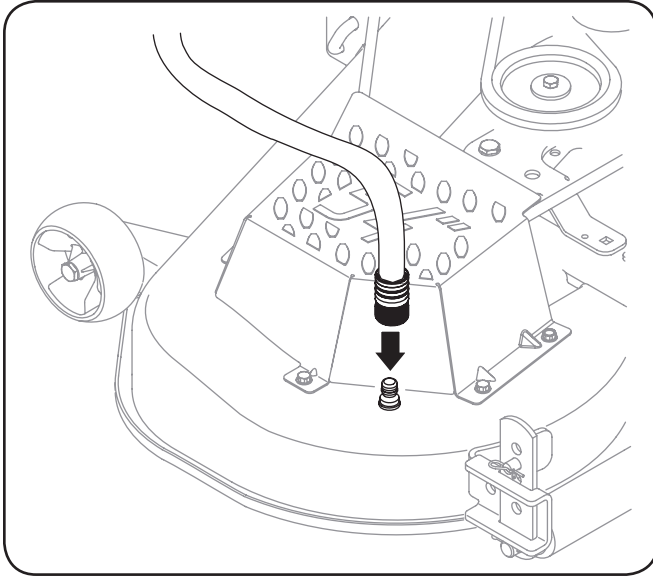

Figure 6-2
4. Attach the hose coupler to the water port on your deck's surface. See Figure 6-2.